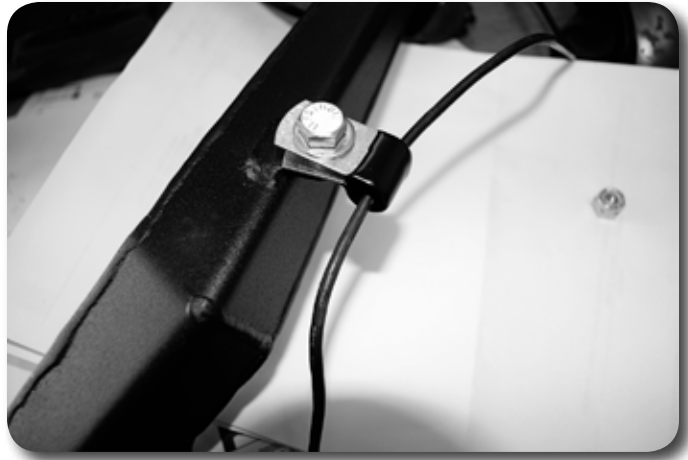

Figure 5
13. **4-6" lift:** Attach ABS wire to the arm with new 5/16" hardware with wire clip. Tighten to 15 ft-lbs. Figure 5